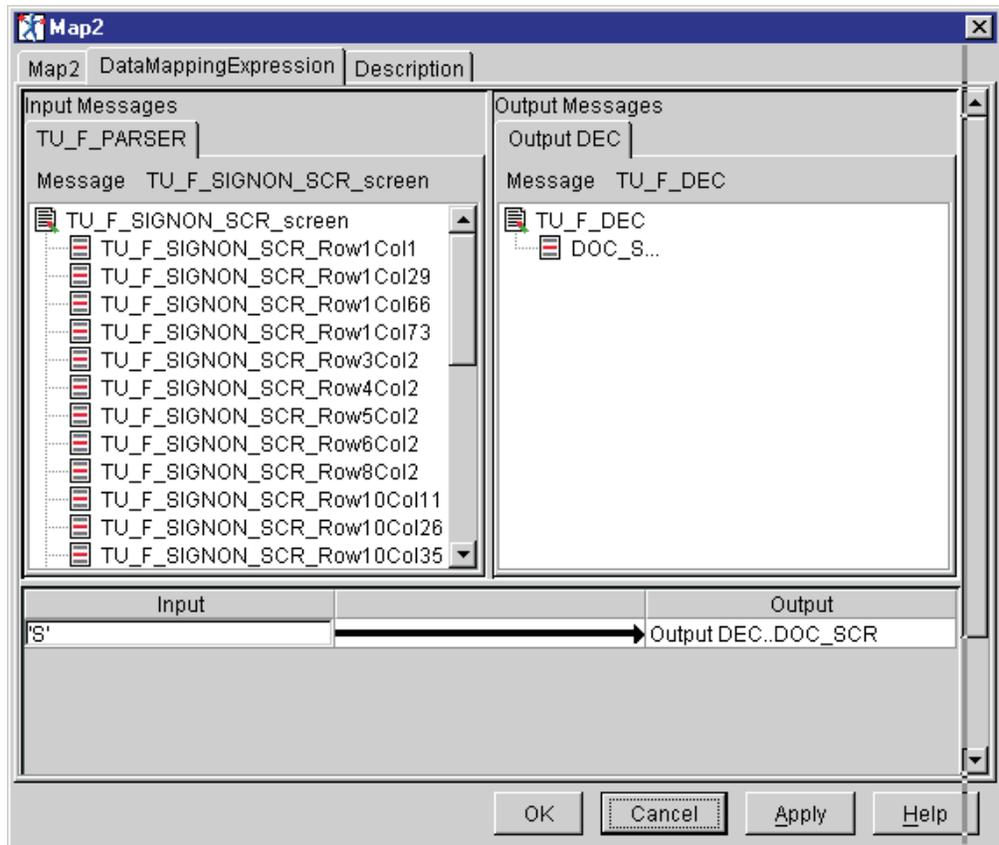

Figure 109. Mapping for Map2 node
- 2) Perform the mapping for the Map2 node as listed in Table 48 and shown in Figure 109 on page 146. This map passes information about the screen identity when a Signon screen is identified.